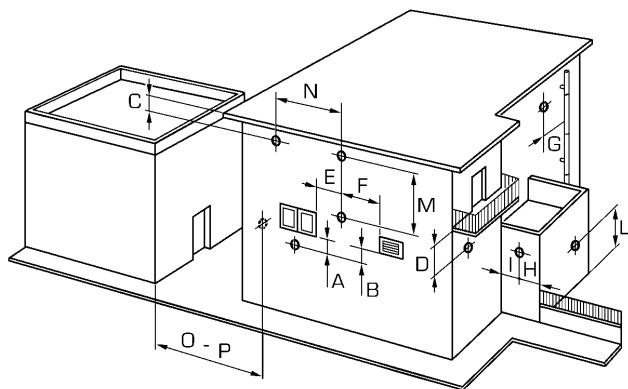

Fig. 11
2.10 POSITIONING THE OUTLET TERMINALS (fig. 11)
To provide some indications of possible solutions, **Table 3** gives the minimum distances to be observed, with reference to the type of building shown in fig. 11.